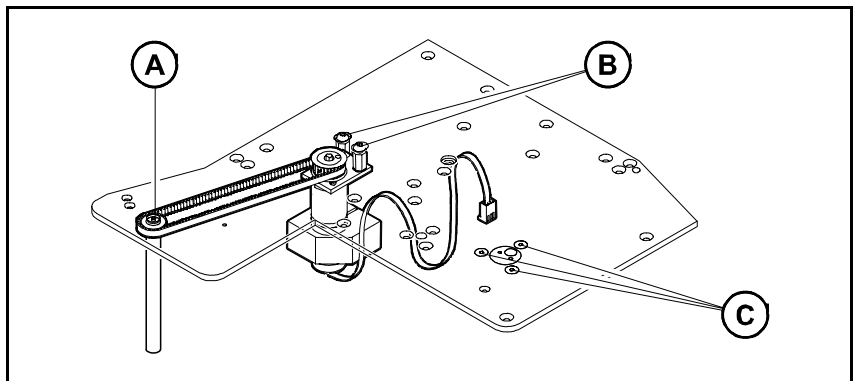

Figure 4. Detaching the end plate
5. Except for the screws at the rubber covered driving shaft ('A' in Figure 4), the motor (B), and the eccentric shaft (C), remove all the end plate screws.